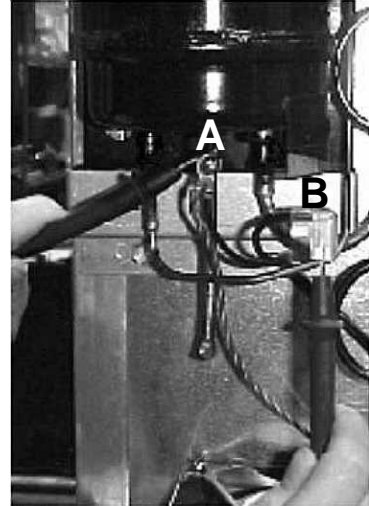

Figure 10
2. Check for voltage (15V – 25V AC) at compressor between points A and B (See Figure 10). If voltage is not within range, refer to **Procedure C** on page 5.